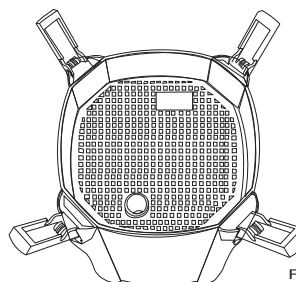
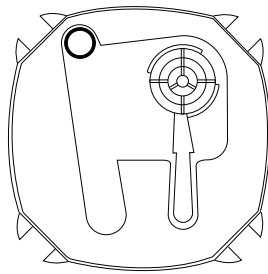

Fig 6
Fig 7
8. Ensure the filter grid is then placed back on top of the last filter basket. This is very important. Fig 6
9. Prior to installing the head unit, turn it over so you can see the impeller. Make certain that the power cord is not wet and plug it into the receptacle then turn it on and ensure it is working. If the impeller does not turn see Cleaning Your Filter for instructions on how to assess the impeller. Remove the Black sealing O-ring from the feeder pipe. Fig 7 and place it on the filter inlet pipe on the top filter basket. Fig 6
18. Repeat steps 14 to 17 for the outlet. Fig 6
19. Place the Suction caps on the spray bar then attach it to the back or side of the aquarium. Fig 7